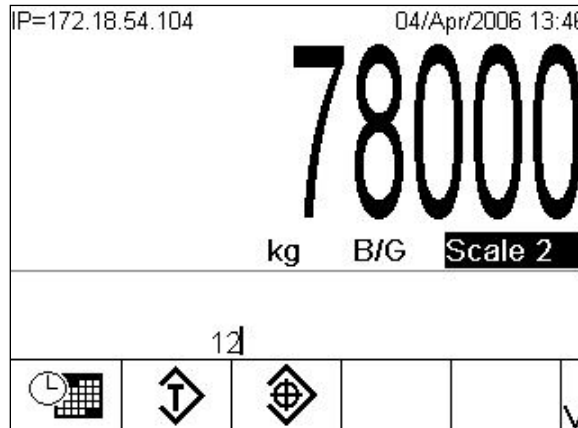

Figure C-12: Direct Entry of Tare ID for Quick Recall
1. Use the numeric keys on the panel to enter the ID for the desired tare. The digits display immediately above the softkey icons, as shown in Figure C-12.